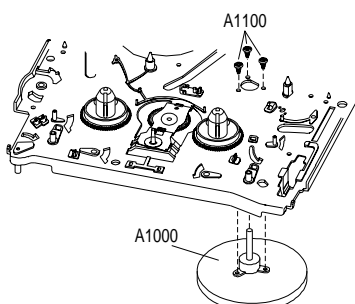

Fig. 5
- Undo 3 screws (Pos. A1100, Fig. 5).
- Take the capstan motor (Pos. A1000, Fig. 5) out of the drive mechanism. In doing so, the capstan must not touch the drive mechanism.